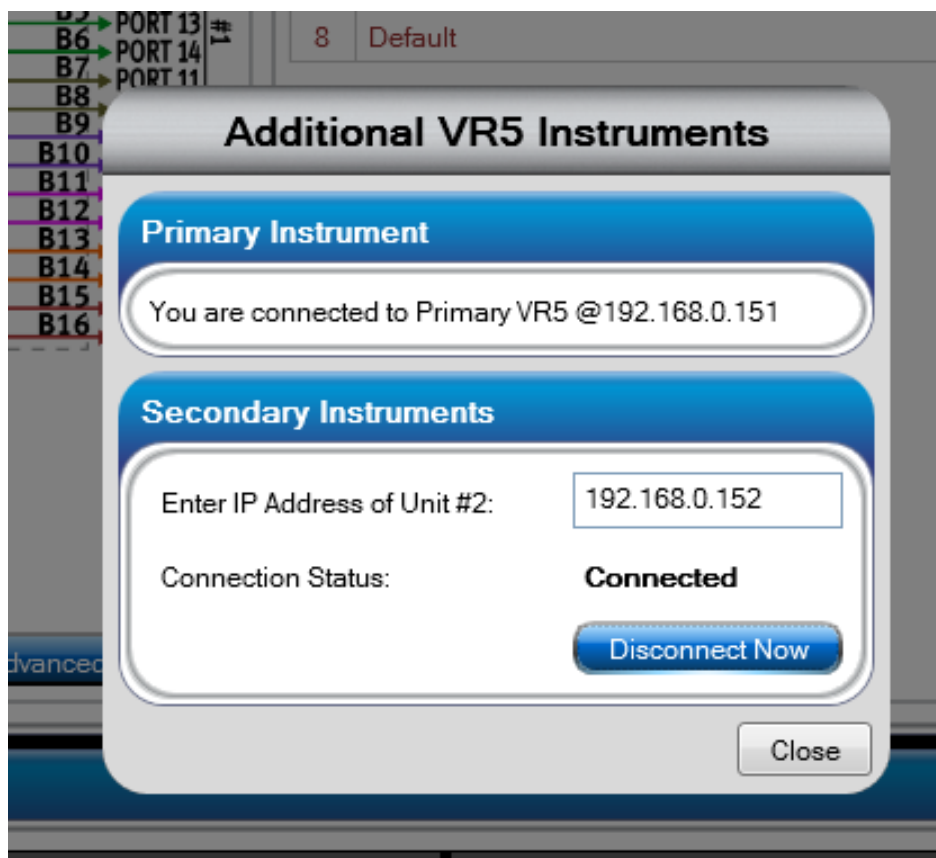

Figure 3-11: Additional VR5 Instruments
10. When the connection is successfully completed, the *Additional VR5 Instruments* window displays, as shown in Figure 3-11.